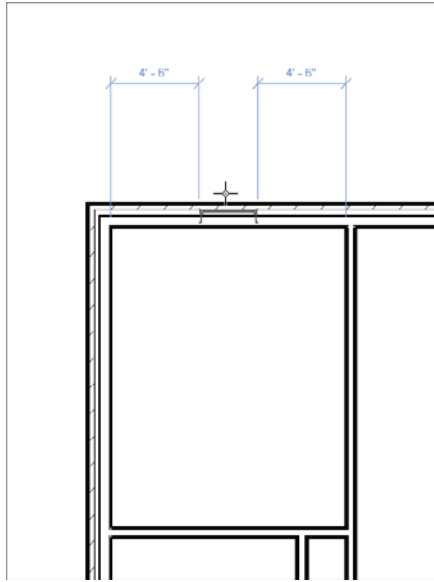

FIGURE 2.78 Depending on the side of the wall your cursor is on, you can add a window to the correct orientation.
3. Add the window to the corner of the building, as shown in Figure 2.78. Be careful with the placement. If your cursor is toward the exterior of the wall, the window will be oriented correctly and the window tag will appear on the outside of the wall.